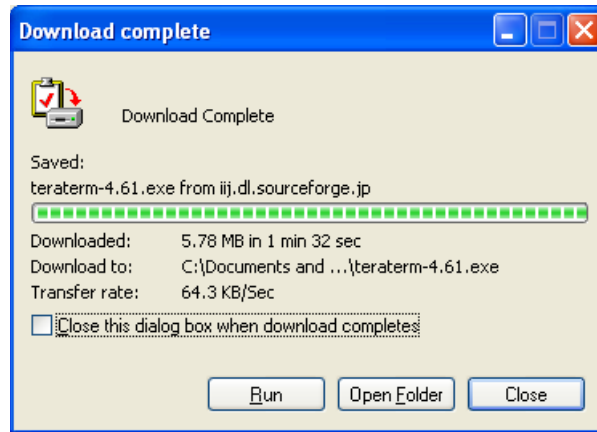

Figure 6-11: File Download Complete
5. When the file download is complete, click **R**un (Figure 6-11).